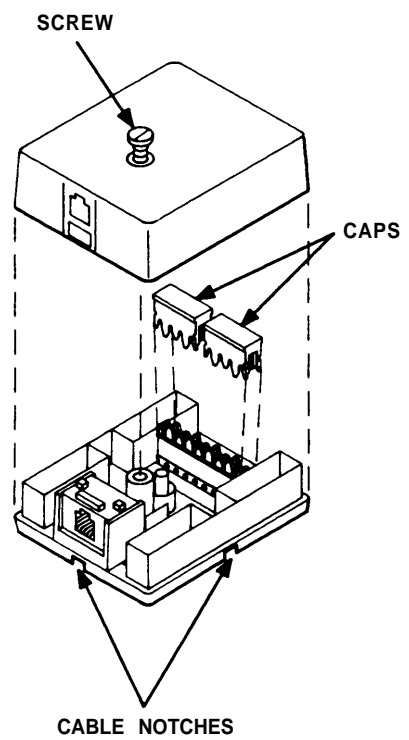

Figure 1
1. Remove the cover from the customer-installable jack by loosening the screw (see Figure 1). Do not remove the screw from the cover. Set the cover aside until the installation is complete.